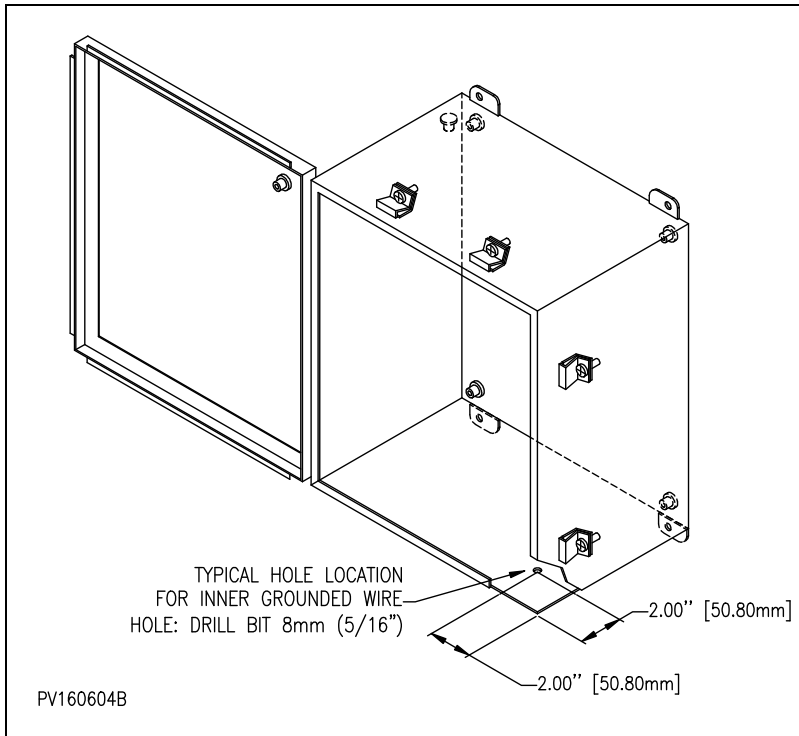

Figure 14 : Typical location for inner grounding wire
2. Drill a grounding hole inside the protection box according to *Figure 14* : “Typical location for inner grounding wire”.